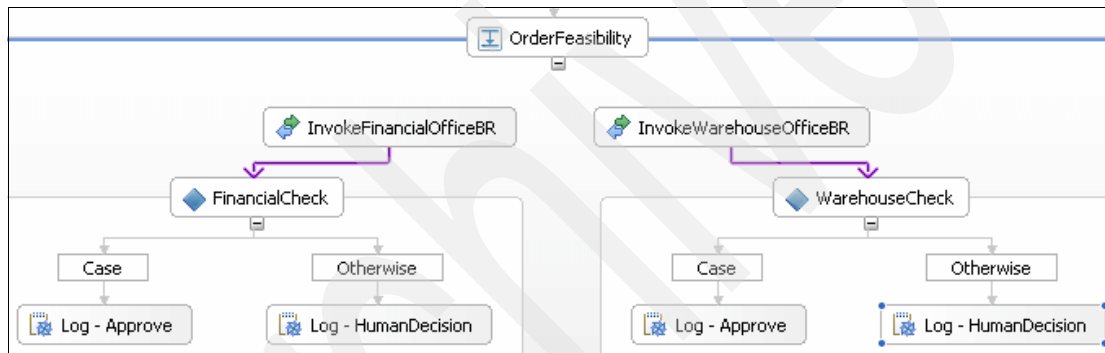

Figure 3-65 OrderFeasibility showing two paths with choice after invoke
12. Repeat the previous step for the warehouse path, as shown in Figure 3-65.